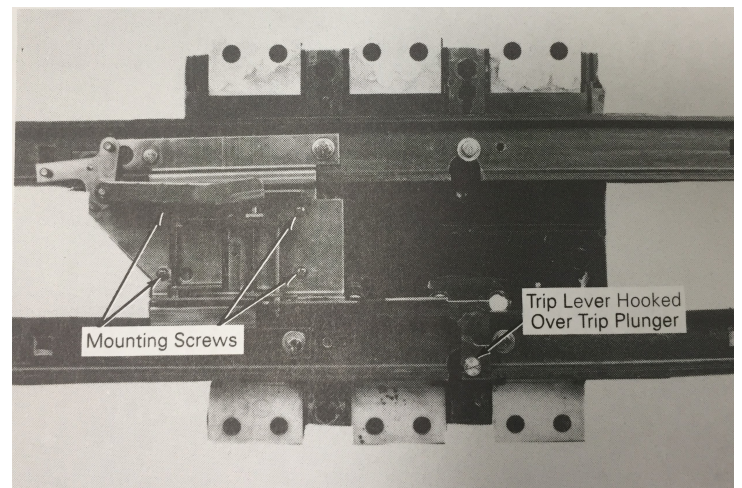

Figure 6 Interlock mechanism attached to the breaker.
6. Install the interlock mechanism, as shown in Figure 6, hooking the trip lever over the slot in the trip plunger. The hole in the underside of the mechanism must line up with the interlock plunger. Attach with four #10-32 Phillips head screws and tighten to 15 in-lb.